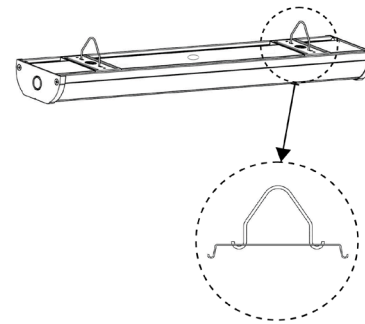

Fig.5 VHOOK MOUNTING
STEP 3 V Hooks (2) are provided for chain mounting. Loop V-Hooks through Snap On Bracket at back of Housing as in Fig. 5.